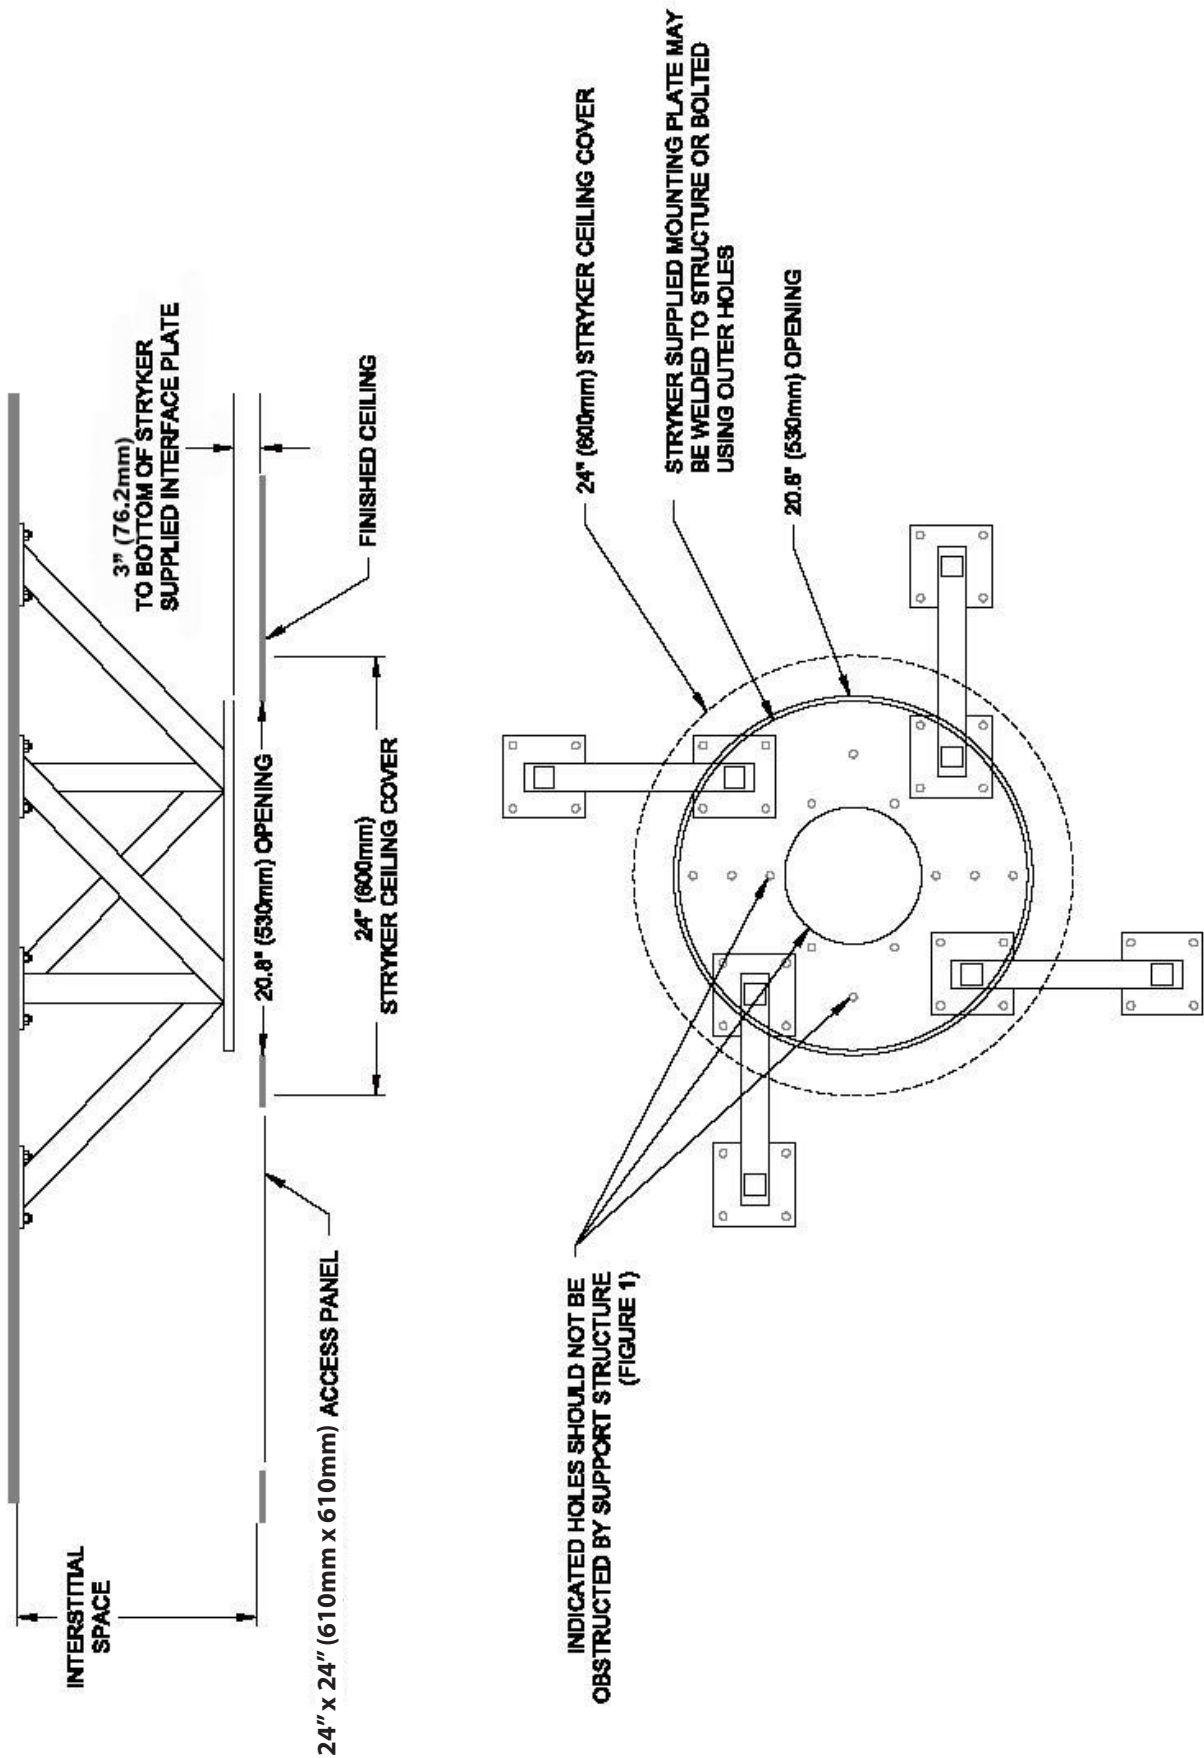

Figure 6.1 - Support Structure
The support structure must be designed and fabricated to adequately support the loads specified for each application and to conform to all applicable regulations. Figure 6.1 is only an example of how all of the required components tie in with the hospital-supplied structure.
3. The Stryker-supplied Mounting (Interface) Plate must be level within 0.25" (6.4mm). The bottom of the mounting plate must be 3" (76.2mm) above the finished ceiling. Allow enough space to route cables to the surgical light and Flat Panel Navigation Arm (see Figure 6.1).